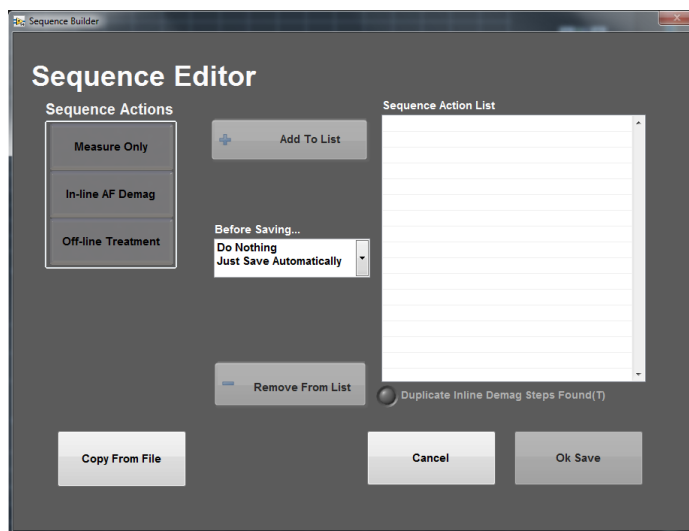

Figure 7. Sequence Editor Window
1. To create a new measurement sequence, select **DAQ > Sequence Editor** (Figure 7).